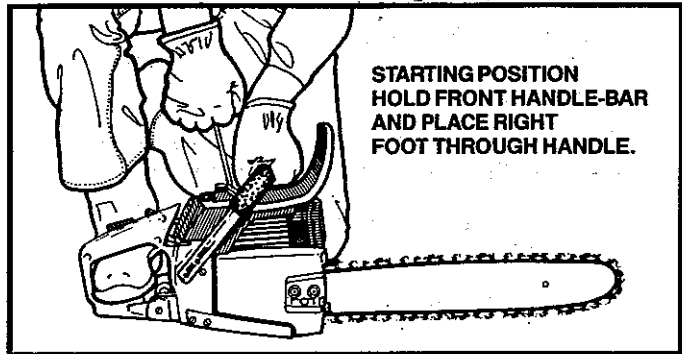

Figure 17
- Set the saw on flat ground making certain the saw chain is free to turn without contacting any object. Figure 17.